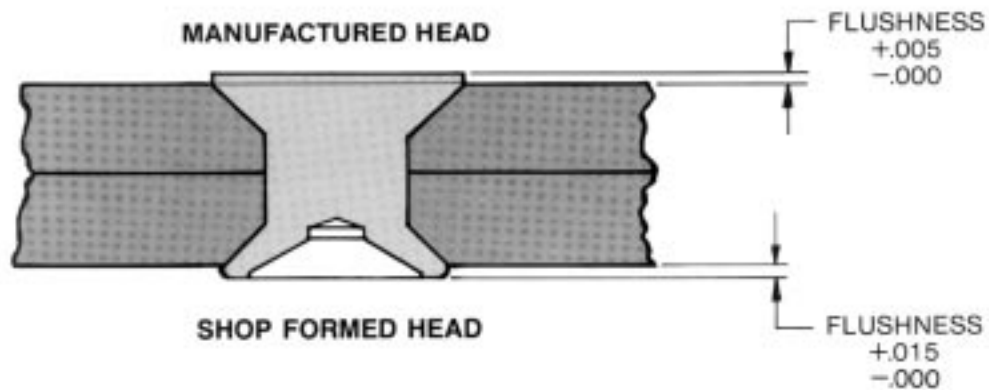

Figure 6 - Flushness Requirements
| Note 1. On the manufactured head side, the countersink diameter specified above is for reference only to achieve the flushness requirement specified in Figure 6 . On the shop formed head side, the countersink diameter is not just for reference and the above limits must be met to ensure an acceptable installation. | | |
- Step 5. Insert an E-Z Buck rivet into the hole and check to be sure that the flushness requirements of Figure 6 can be met (after shaving if necessary). The head height of the manufactured head may not be reduced by more than 0.005" by shaving.
- Step 3. Check the rivet installation to be sure the flushness requirements of Figure 6 can be met after shaving (note: the head height of the manufactured head may not be reduced by more than 0.005" by shaving).
- Step 6. Except as noted below, shave the manufactured and shop formed heads as necessary to meet the flushness requirements specified in Figure 6. The head height of the manufactured head may not be reduced by more than 0.005" by shaving. When shaving rivet heads, take care to avoid marking or damaging the surrounding structure. Set-up and operate rivet shavers as specified in PPS 1.48.
- 6.2 Installed rivets must meet the flushness requirements specified in Figure 6, after shaving according to PPS 1.48, if necessary. The head height of the manufactured head may not be reduced by more than 0.005" by shaving.